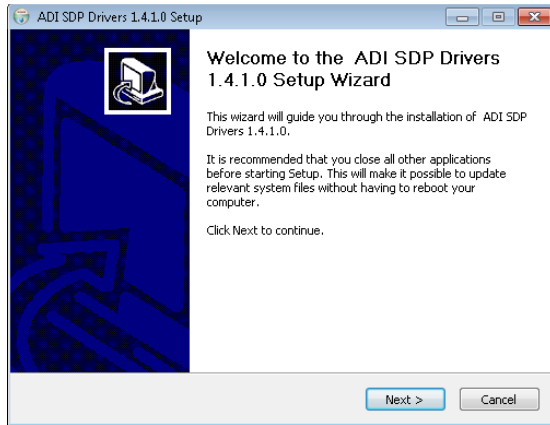

Figure 6. Setup Wizard Welcome Window
1. The ADI SDP Drivers Setup Wizard opens. Click **Next** to begin the driver installation process (see Figure 6).